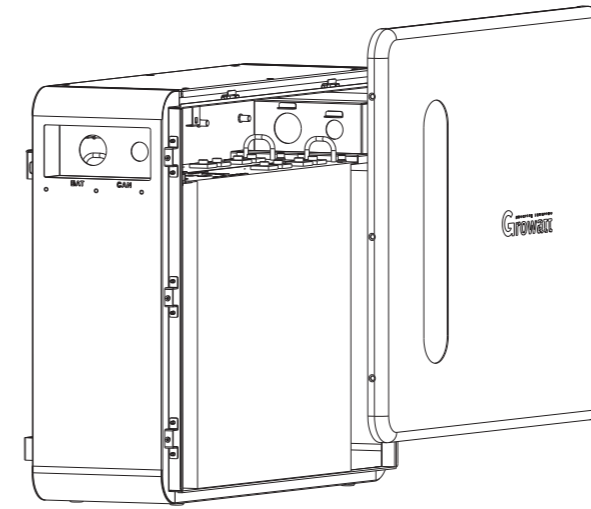
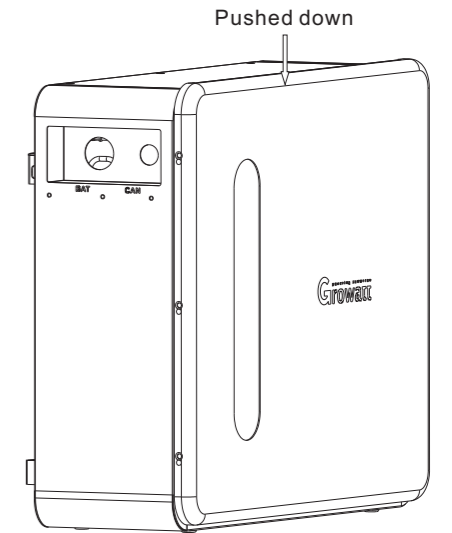

Figure16
Figure17 (Pushed down the front panel)
1. Hang the front panel on the two I-shaped brackets at the upper end of the box (as shown in Figure 16). After hanging the front panel, push it down to avoid improper installation of the front panel (as shown in Figure 17).